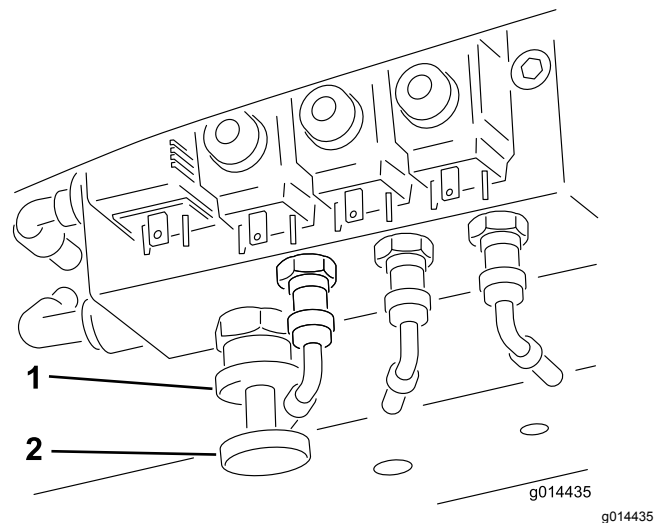

Figure 32
To engage weight transfer: The amount of weight transfer can be varied to suit operating conditions by rotating the weight transfer hand wheel (Figure 32) as follows:
1. Release the valve locknut 1/2 turn counterclockwise and hold (Figure 32).
2. Rotate the valve hand wheel (Figure 32) counterclockwise to reduce weight transfer or clockwise to increase weight transfer.